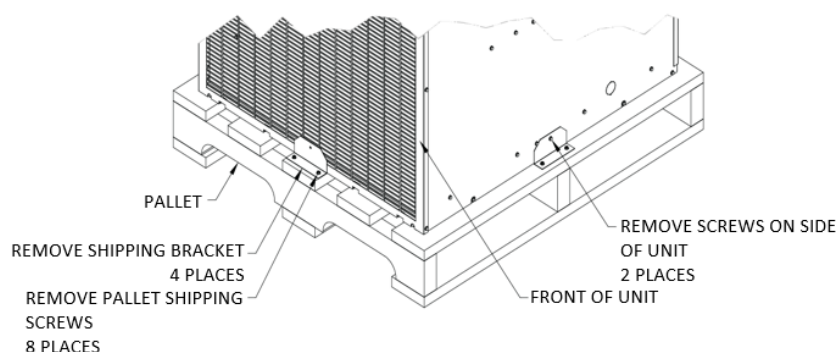
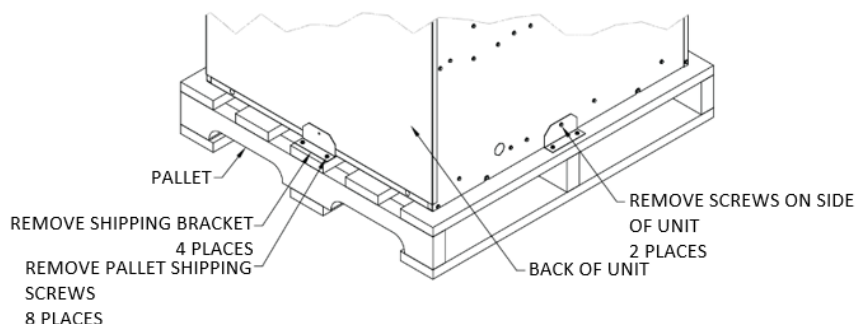

FIGURE 3 - Standard Packaging with Shipping Brackets - Front View
FIGURE 4 - Standard Packaging with Shipping Brackets - Back View
- 10) Ensure that the shipping brackets and screws are removed from the chassis section. Refer to **FIGURE 3 - Standard Packaging with Shipping Brackets – Front View** & **FIGURE 4 - Standard Packaging with Shipping Brackets – Back View** for more information.